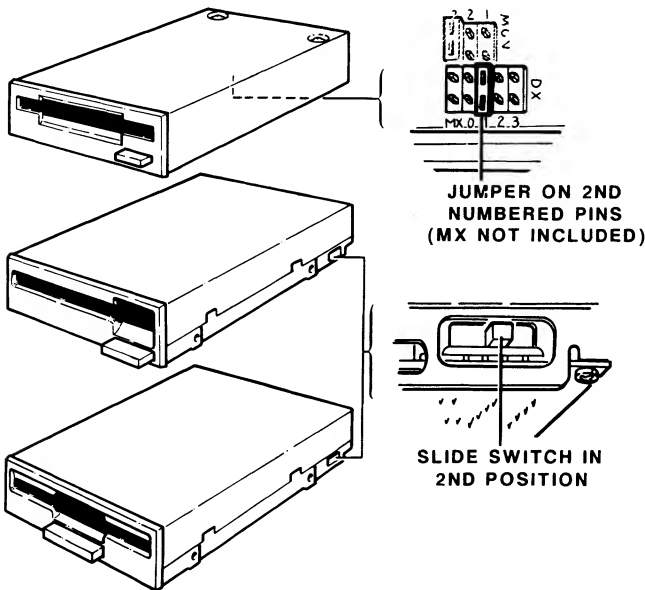

Figure 5-8. Typical Drive Select Jumper Locations
6. Drives are usually shipped from the manufacturer with the jumper set as drive B (the second floppy disk drive). Verify that the drive select jumper is set to the second position on the new 3.5-inch drive. The location, designation, and type of jumpers may vary, depending on the manufacturer of the drive. Refer to Figure 5-8 for typical locations of drive select jumpers (also referred to as programming jumpers).